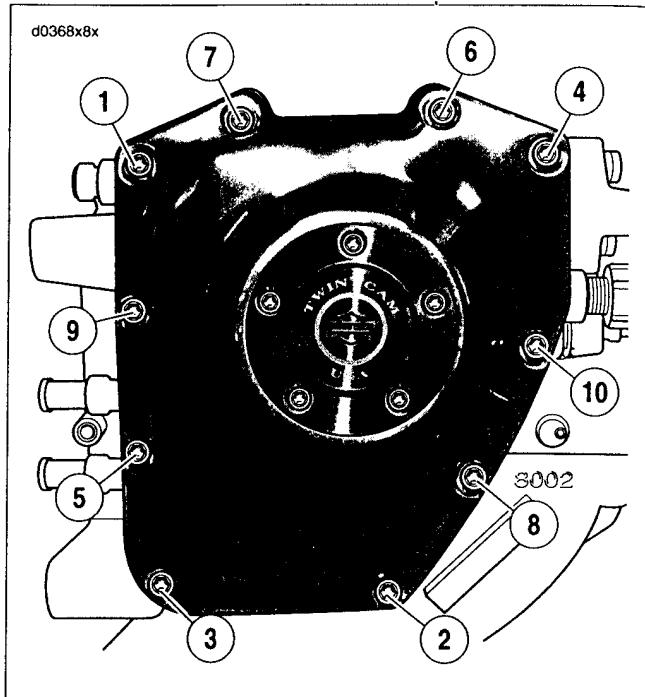

Figure 3-50. Cam Cover Screws
2. See Figure 3-50. Remove the ten allen head socket screws with captive washers to release the cam cover. Remove and discard the cam cover gasket.